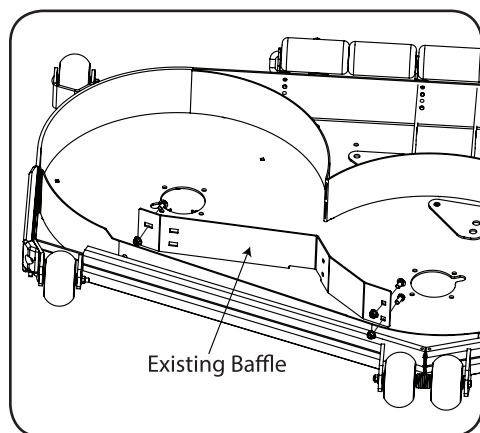

Figure 1-4
6. Remove the existing baffle from the underside of the deck by removing the three bolts and flange lock nuts that secure it to the deck. See Figure 1-4.